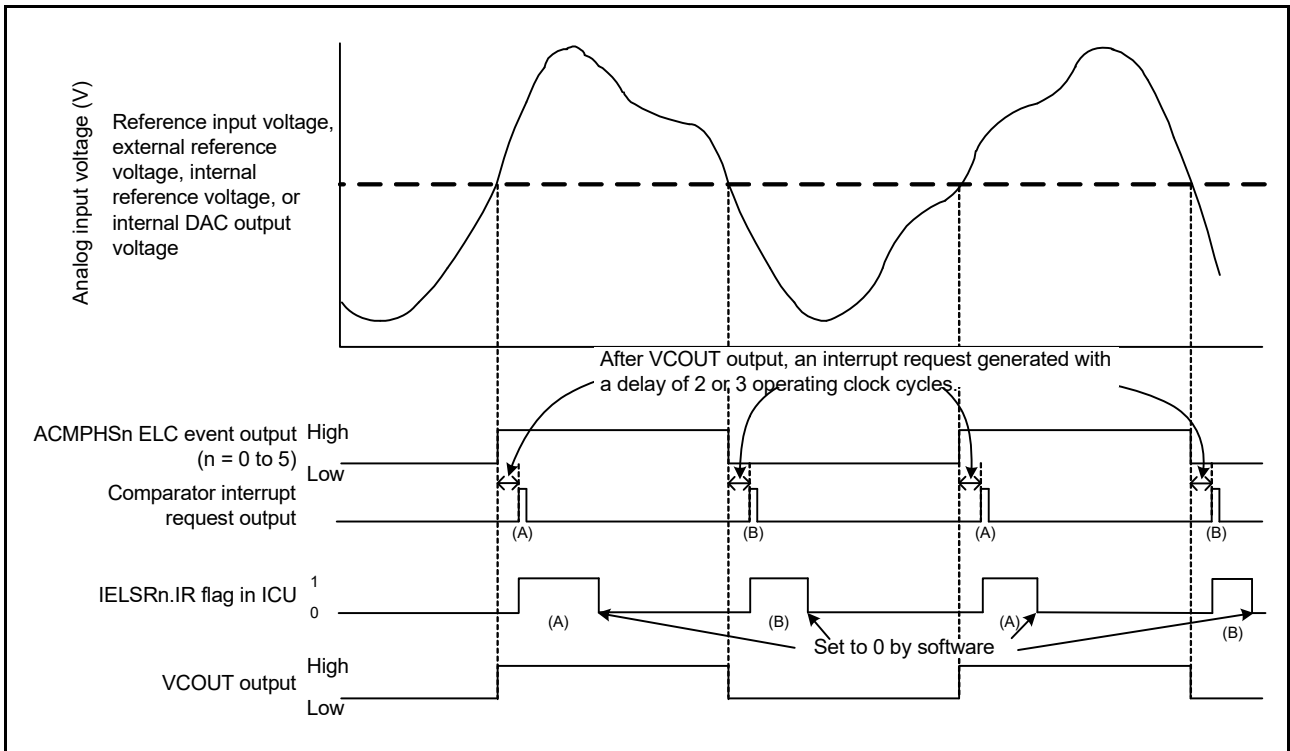

Figure 38.2 ACMPHS operation example
Figure 38.2 shows an example of ACMPHS operation. The VCOUT output becomes 1 when the analog input voltage is higher than the ACMPHS reference input voltage, and the VCOUT output becomes 0 when the analog input voltage is lower than the reference voltage. When the ACMPHS output changes, an interrupt request and an ELC event are output.
Figure 38.2 applies when CPOE = 1 (pin output enabled), CDFS[1:0] = 00b (filter not used), and CEG1 = CEG0 = 1 (both-edge detection selected). When CINV = 0, CEG0 = 1, and CEG1 = 0 (rising-edge detection selected for non-inversion output signal from the ACMPHS), the IELSR.IR flag changes as shown by (A) only. When CINV = 0, CEG0 = 0, and CEG1 = 1 (falling-edge detection selected for non-inversion output signal from the ACMPHS), the IR flag changes as shown by (B) only. When CPOE = 1, VCOUT directly outputs the ELC event output.